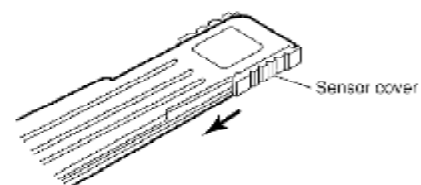

Fig.8
4. Slide the sensor cover of the laser power meter. (Refer to Fig.8.)